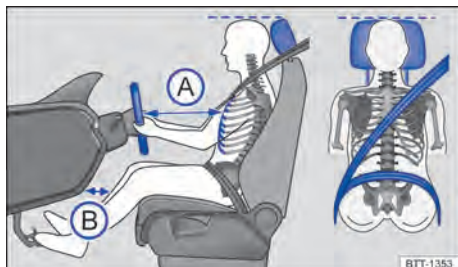

Fig. 20 Correct distance between the driver and the steering wheel, correct seatbelt position and correct headrest adjustment.
- Adjust the seat so that the distance between the steering wheel and the driver's chest is at least of 25 cm → Fig. 20 A and so the driver can firmly hold the steering wheel by its outer rim with both hands and with slightly flexed arms.
- Adjust the driver's seat lengthwise so that the pedals may be reached with slightly flexed legs and so that the distance between the knees and the dashboard is at least 10 cm → Fig. 20 B.
- Adjust the head rest so its top edge is at the same height as the top of the head → Fig. 20 – but not below eye level. Position the back of your head as close to the head restraint as possible.